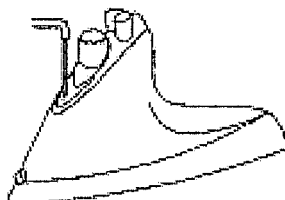

FIGURE 8
4. Fill water through the Water Tank Opening (see FIGURE 8).